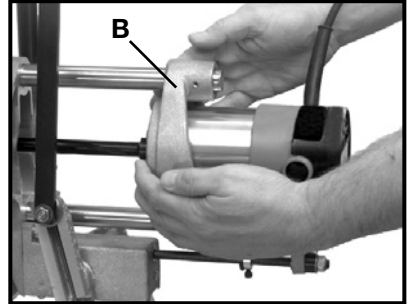

Fig. 9
8. Move feed lever (A) to horizontal position to disengage feed mechanism.
9. Grasp motor carriage (B), Fig. 9, with both hands and pull towards you until bit is clear of cut mortise. Remove mortiser from 2" × 6" (50.8 × 152.4 mm).